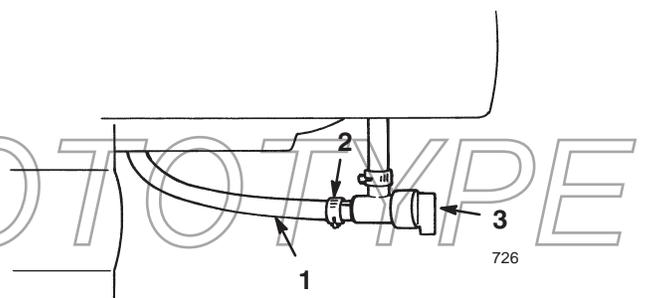

Figure 21
- **Fuel Shutoff Valve** (Fig. 21)—Close the valve by rotating it clockwise. Open the valve by rotating it counterclockwise. Close the valve when you do not use the snowthrower.
4. Open the fuel shutoff valve below the fuel tank (Fig. 21).
- Close the fuel shutoff valve (Fig. 21).